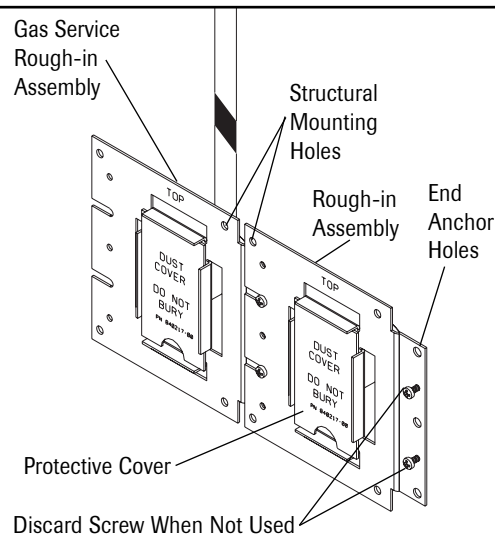

Figure 1
The rough-in assembly is an interlocking mounting plate allowing the ganging and proper spacing of the slide bracket with *Puritan Bennett™* Series B Medical Gas Service Outlet Accessories. Alignment holes and locking screws are on the right flange of each mounting plate and a slotted flange with interlocking guide pins is on the left side (Figure 1).
1. Refer to building plans to determine the location of the bracket. Slide the left flange over the right flange (slots are provided to guide each assembly in place). Match alignment holes with guide pins and then tighten the locking screws (Figure 1).